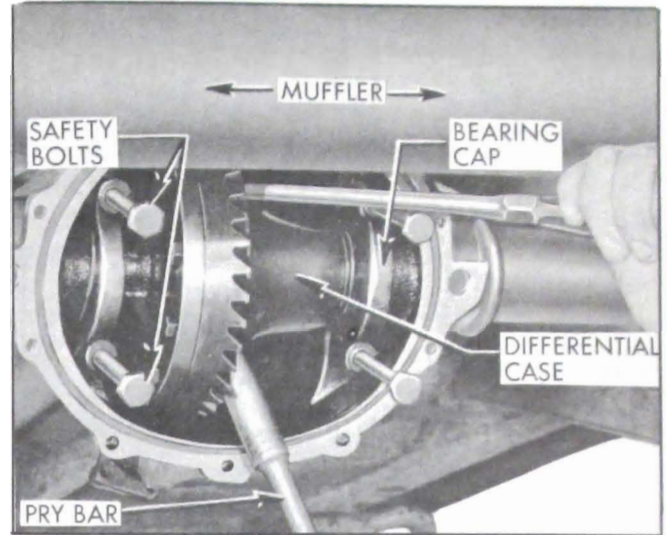

Figure 6-10—Removing Differential Assembly
4. Using two pry bars, pry differential case assembly out carefully. See Figure 6-10. Differential will be held tightly if bearing preload is correct.